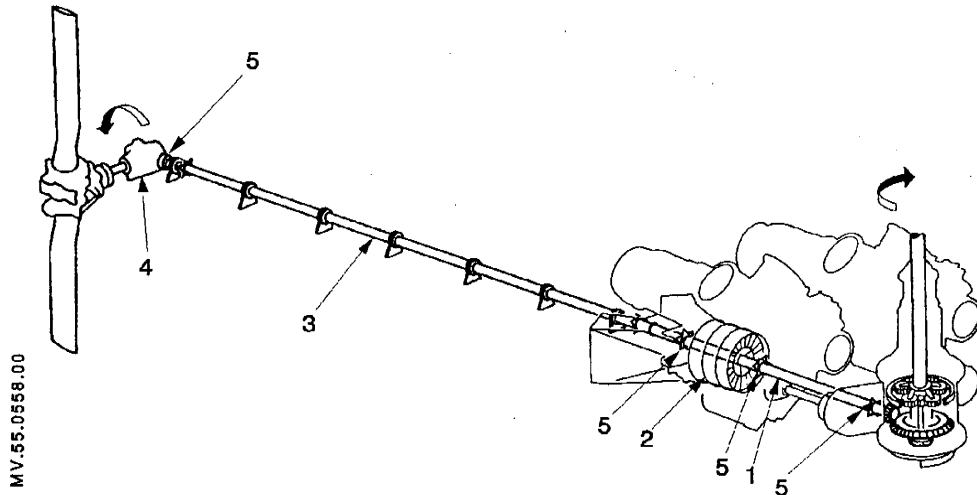

Figure 3
2.3 Tail rotor drive system (Figure 3)